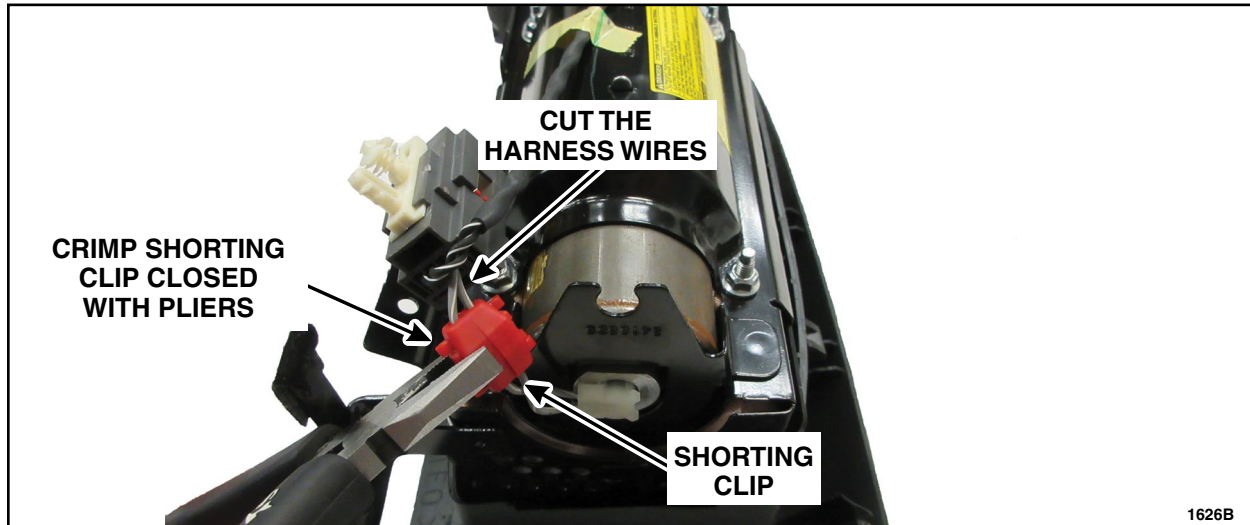

FIGURE 3
5. Position the shorting clip onto the harness wires, and crimp the shorting clip together one side at a time using pliers. See Figure 3.
6. Cut the harness wires between the shorting clip and the harness connector. See Figure 3.